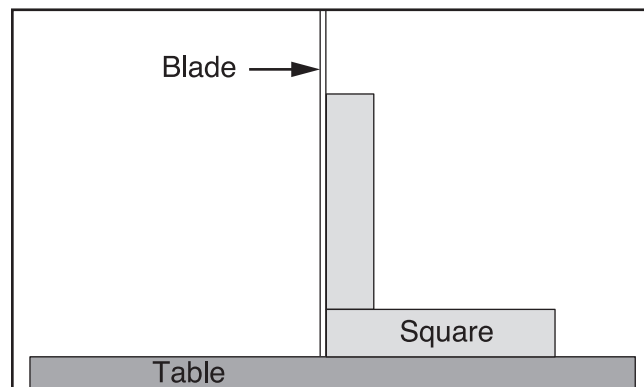

Figure 40. Squaring table to blade.
4. Place a machinist's square flat on table against side of blade, as illustrated in **Figure 40**.